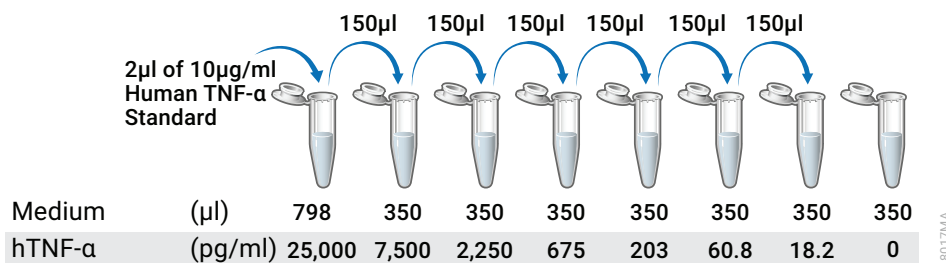

Figure 3. Human TNF- α dilution series.
3. Prepare an initial concentration of 25,000pg/ml human TNF- α by diluting Human TNF- α Standard (10 μ g/ml) 1:400 in prewarmed cell culture medium. For example, prepare 800 μ l of 25,000pg/ml human TNF- α by adding 2 μ l of the Human TNF- α Standard stock to 798 μ l of culture medium (see Figure 3).
3. Prepare an initial concentration of 25,000pg/ml human TNF- α by diluting Human TNF- α Standard (10 μ g/ml) 1:400 in prewarmed cell culture medium. For example, prepare 800 μ l of 25,000pg/ml human TNF- α by adding 2 μ l of the Human TNF- α Standard stock to 798 μ l of culture medium (Figure 3).